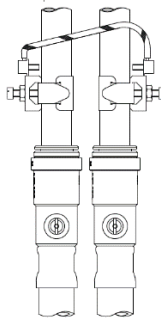

Figure 12 Earth continuity connections
- **Adjacent pipes:** Adjacent suction and delivery pipes should be fitted with earthing clamps in accordance with current regulations (Figure 12).